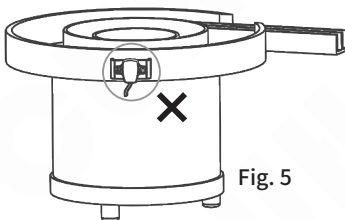
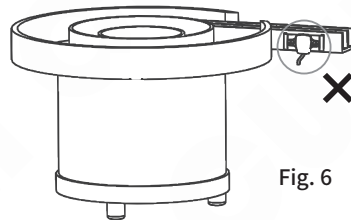

Fig. 5
Fig. 6
- Not recommend installation method, As shown in Fig. 5 and Fig. 6.